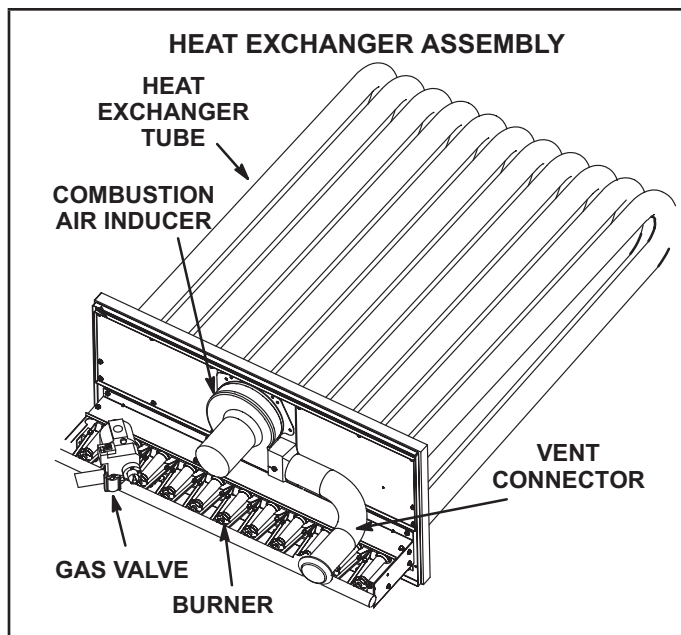

FIGURE 33
- 3 - Remove and retain screws securing combustion air inducer to flue box. Remove vent connector. See FIGURE 33.